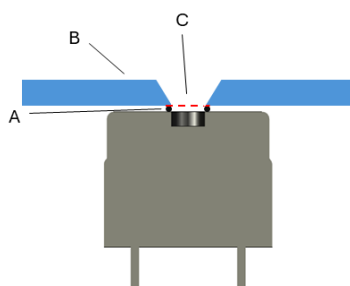

Figure 1
Figures 1, 2, and 3 illustrate three different possible ways of integrating a conventional buzzer into a device. The labels in these figures correspond to the following components:
- Fig. 1: Flared edges that help prevent any acoustic tubing effect,